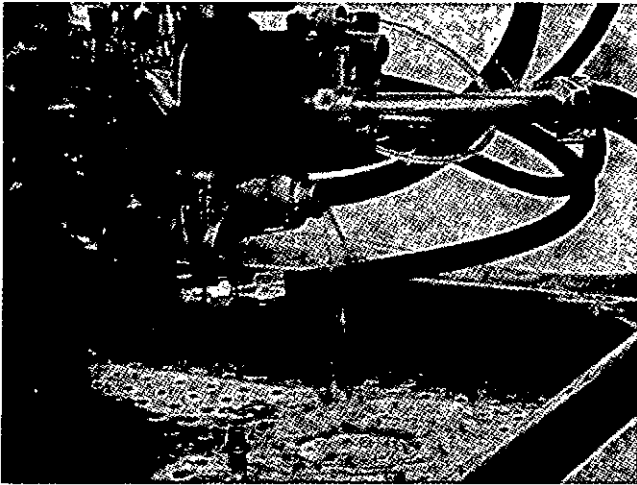

Fig. 10-26, (F5272). Remove the plug in the spring pack cover with the pump at 600 rpm.
1. Run the fuel pump at 600 rpm. Loosen the plug in the rear of the spring pack cover. Fuel will flow out of the plug opening, Fig. 10-26.